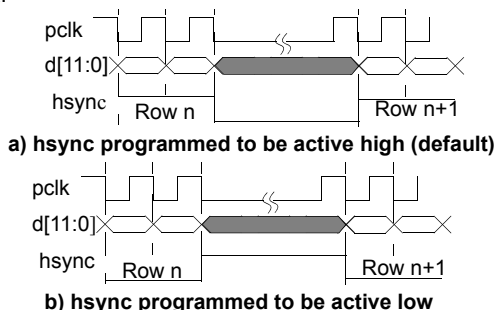

Figure 39. *hsync* in Level Mode
- Level mode should be used when the pixel clock, *pclk*, is programmed to operate in *free running mode*. In level mode the *hsync* output pin will go to the specified level (high or low) at the start of each row and remain at that level until the last pixel of that row is read out on *d[11:0]* as shown in Figure 39. The *hsync* level is always synchronized to the active edge of *pclk*.